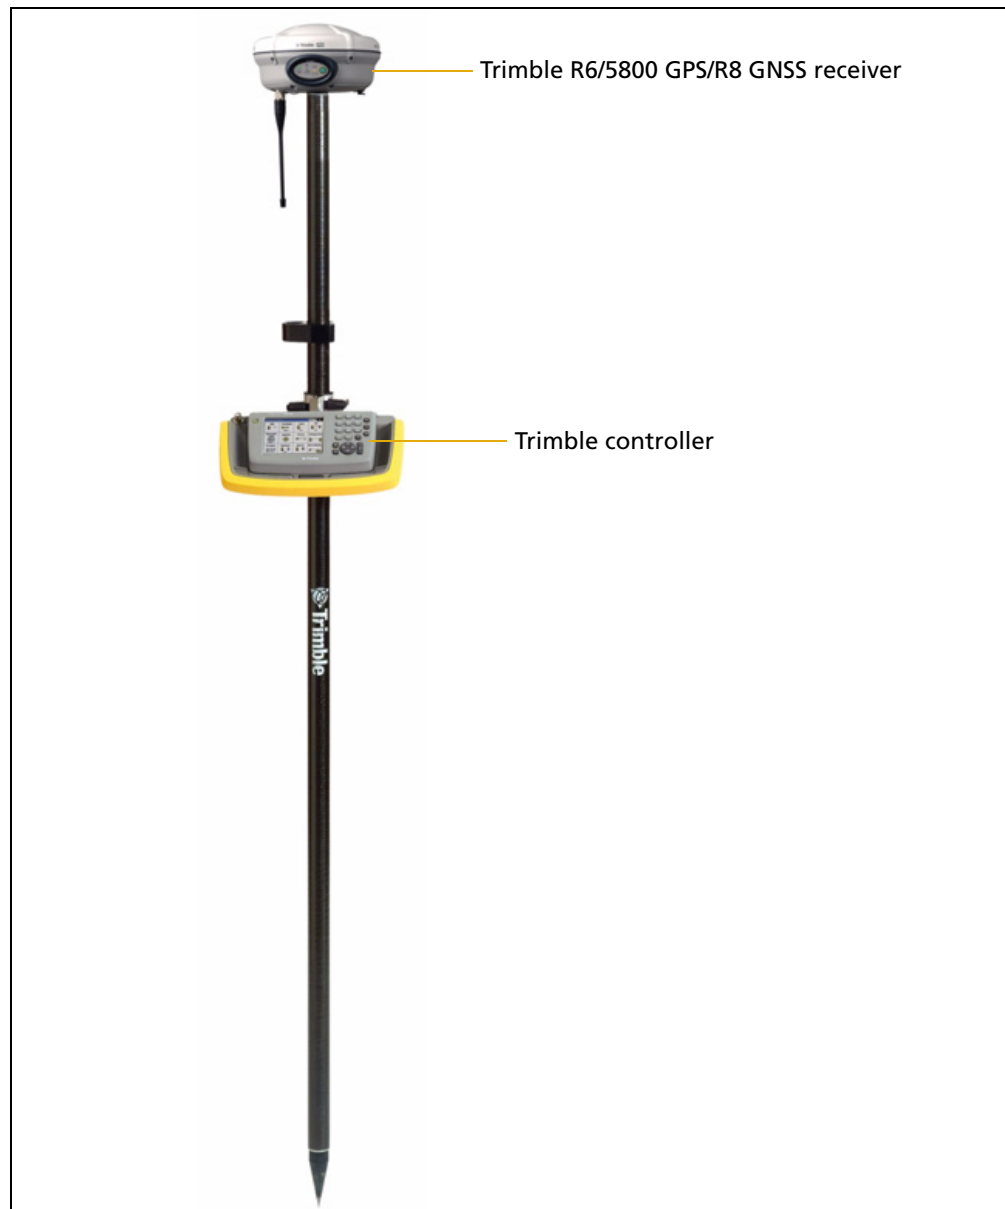

Figure 3.3 Receiver pole-mounted setup
Figure 3.3 on page 24 shows the pole-mounted setup for the receiver. To mount the receiver on a range pole:
**Note** – When using a Trimble TCU, Trimble Recon®, TSCe™ with BlueCap®, or a TSC2 controller, no cabling is required, as shown in Figure 3.3.